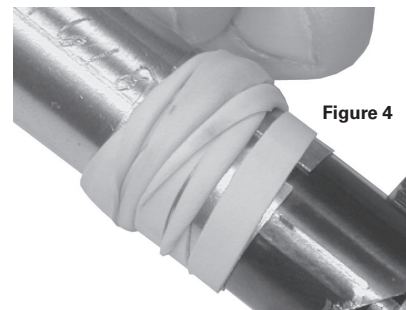

Figure 4
4. Wrap the shims as tightly as possible with a rubber band to ensure their full contact with the bolt body. If the shims slide out of position, re-align them after the rubber band is in place. (See Figure 4).
them after the rubber band is in place. (See Figure 4).